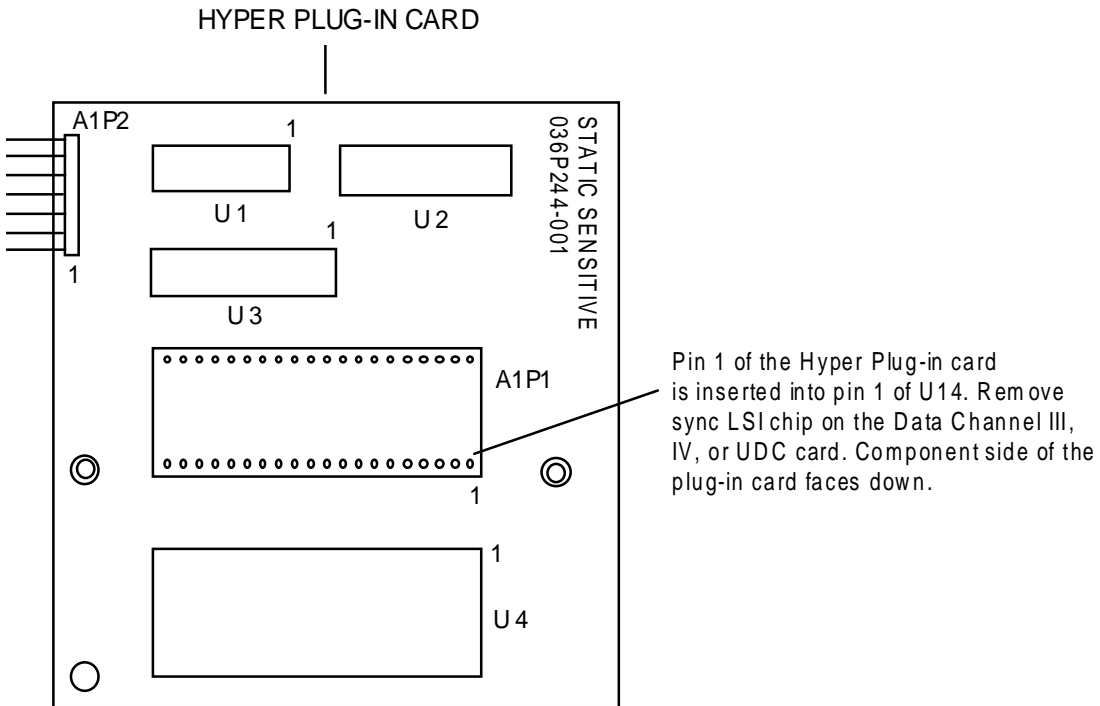

Figure 4-39 Hyper Plug-In Card
3. Place the Hyper Plug-In card with the component side facing down towards the Data III Channel, Data IV Channel, or Universal Data Channel Module. Carefully align Pin 1 (of A1P1) on the Hyper Plug-In Card with Pin 1 of the 40-pin U14 IC socket (the vacated sync LSI chip). With all pins aligned, carefully press the Hyper Plug-In Card onto the Data III Channel, Data IV Channel or Universal Data Channel Module. See *Figure 4-39*.